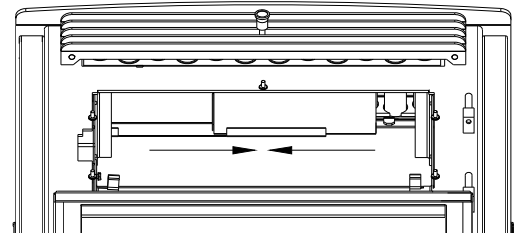

Figure 46
- b. Open the door and remove the baffle from the firebox. Slide each side of the baffle toward the center to remove (Figure 46). Close the door.
- Baffle:** Remove the baffle and scrape off ashes. Slide both sides toward the center to remove the baffle(Figure 46) Use a vacuum is necessary. In some cases, you will need to remove creosote on the baffle, which can accumulate rapidly under certain conditions. A small wire brush can be used. It is important to remove this creosote because it is highly combustible and could cause premature corrosion.